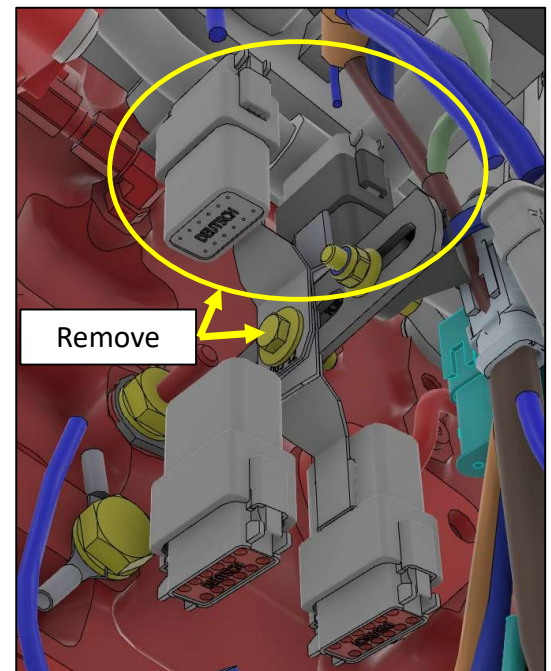

Figure 3 – Splice Connectors Location
3. Remove the bolt that retains all splice connectors and then remove the upper splice connectors (see figure 3).